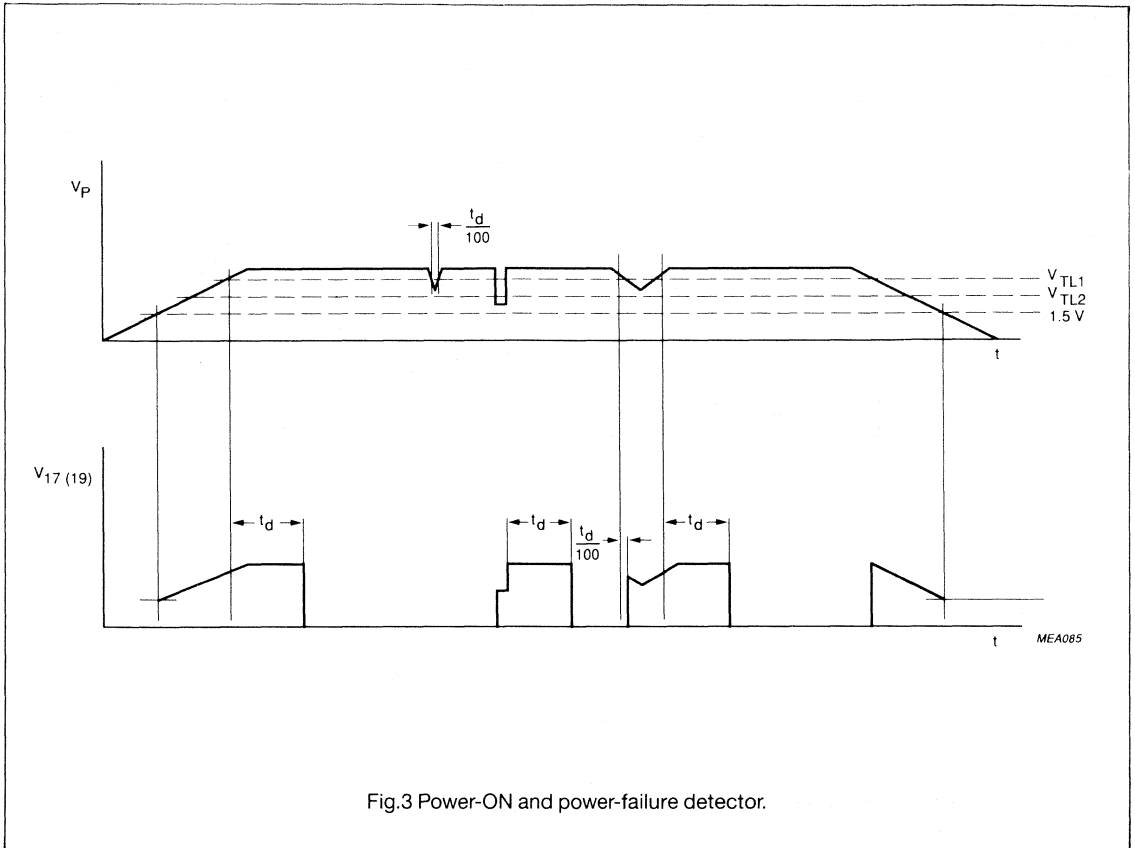

Fig.3 Power-ON and power-failure detector.
| CPO/FAIL and PO/FAIL OUT pin 4 (4) and 17 (19); see Fig.3 | | | | | | |